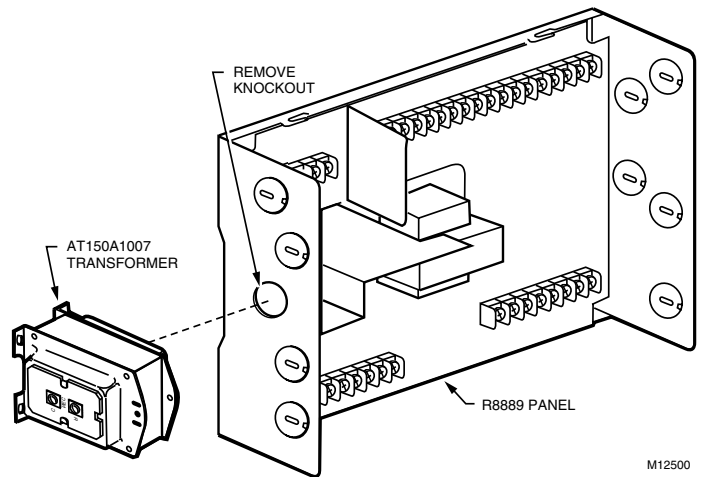

Fig. 5. Mounting AT150A1007 to R8889C,D.
**NOTE:** For applications requiring an R8889C,D that can support zone loads up to 0.9A, add an AT150A1007 Transformer (external); order separately. See Zone Current Rating Upgrade section and Fig. 5 and 6.
1. Remove the R8889 transformer knockout. See Fig. 5.